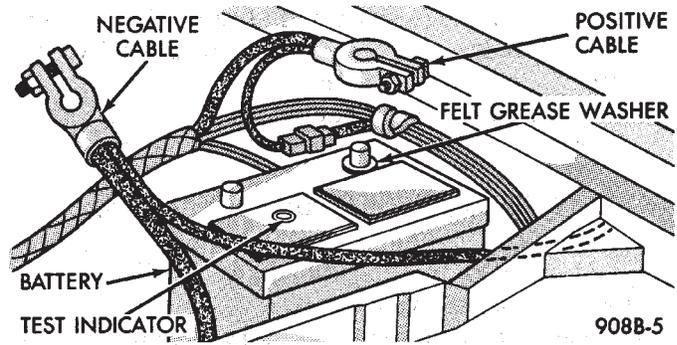

Fig. 8 Battery Cables Disconnected
(14) Install battery heat shield.
(15) Place felt grease washer onto Positive (+) battery post.
(16) Connect battery cable clamps to battery posts making sure top of clamp is flush with top of post (Fig. 8). Install POSITIVE cable first.
(17) Tighten clamp nuts securely.